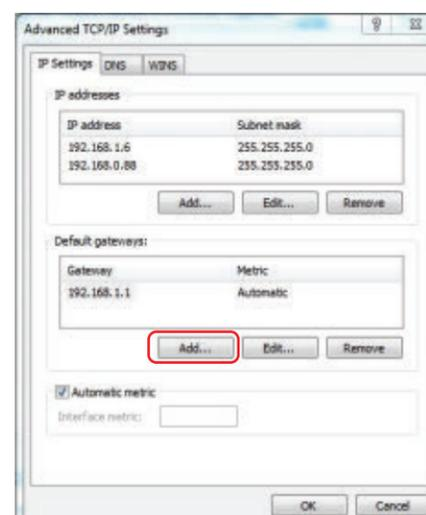

Fig. 6.10
- (4) Return “Advanced TCP/IP settings”, add gateway by clicking “Add...” as indicated in Fig. 6.10.